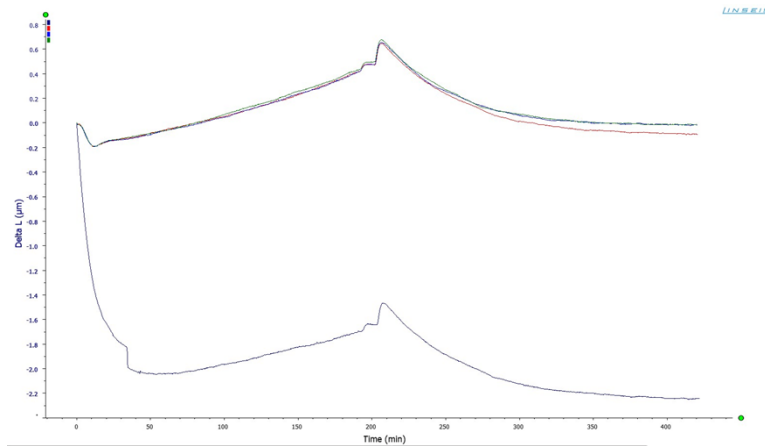
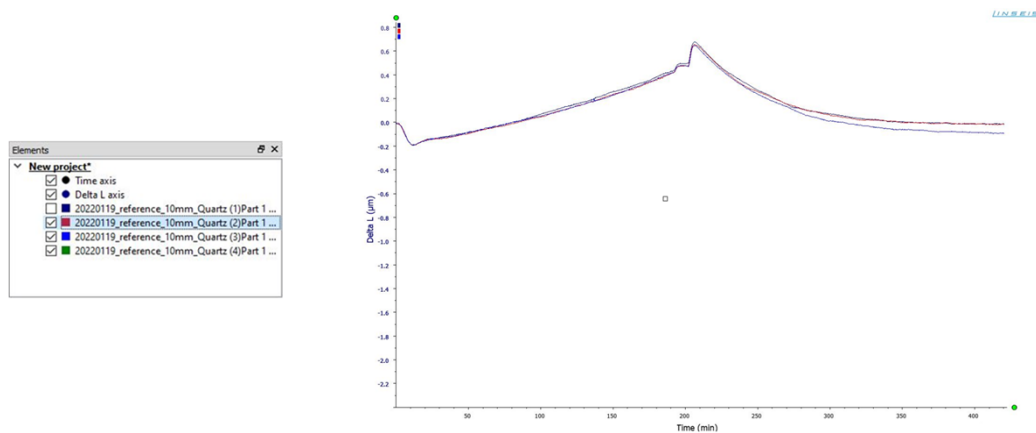

Figure 32. Quartz correction curve data
Figure 33. Curves listed in elements and deleted outlier.
4. Compare the data of the quartz correction runs to look for repeatability. See Figure 32.
- Eliminate any curves which are outliers and are not to be included in the mean, notice the difference between Figure 32 and Figure 33. Figure 33 shows the deleted outlier curve. Delete the curves by first highlighting them in the elements window under the project name then right click and select delete.